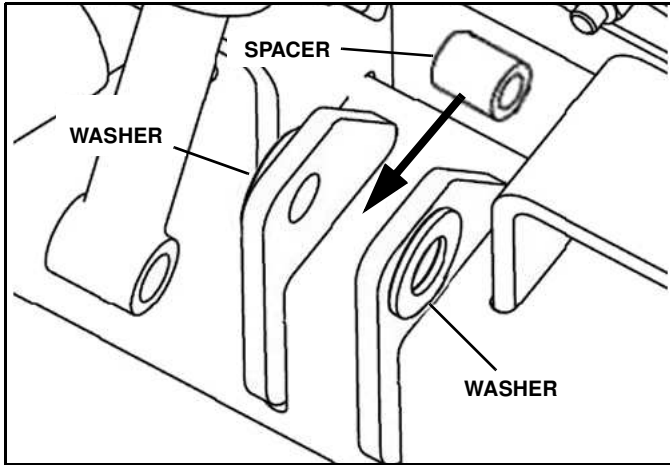

Figure 1-18
- e. Two washers (p/n 98009030) and one spacer (p/n 96112873) will be placed as shown in the following steps. (See Figure 1-18).